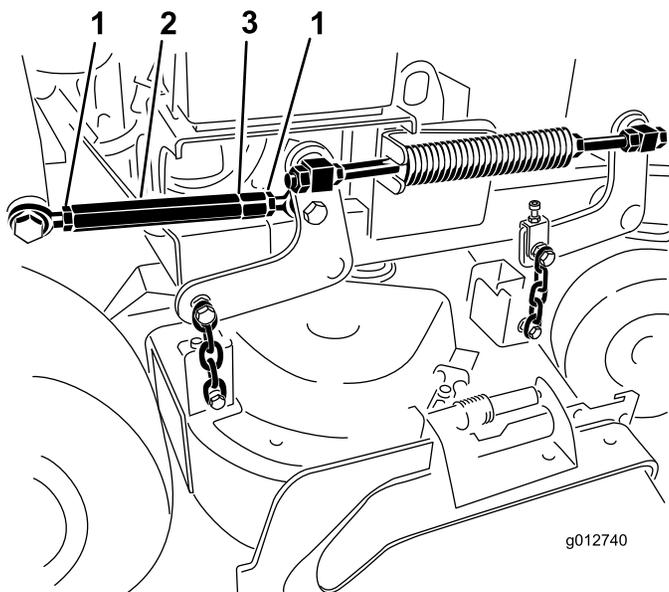

Figure 86
7. Loosen the jam nuts at both ends of the turnbuckle (Figure 86).
Note: The end of the turnbuckle with the groove machined in it has left hand threads (Figure 86).